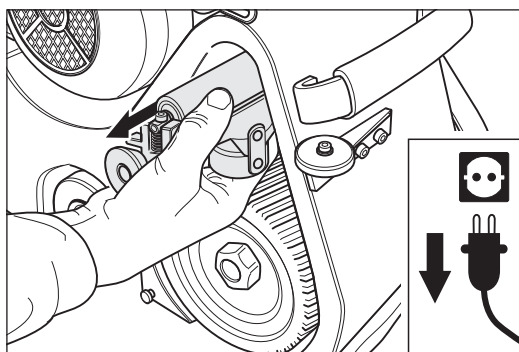

Fig. 71 Carefully remove the drive unit.
- 9 Carefully remove the drive unit (fig. 71) and clean it. **Never use any cleaning products which contain solvents!**